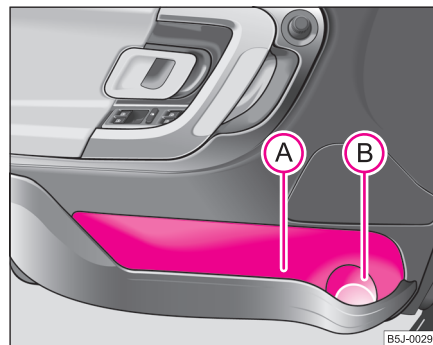

Fig. 77 Stowage compartment in door panel
Use the area (A) ⇒ fig. 77 of the storage compartment only for storing objects which do not project so that the effectiveness of the side airbag is not impaired. ■